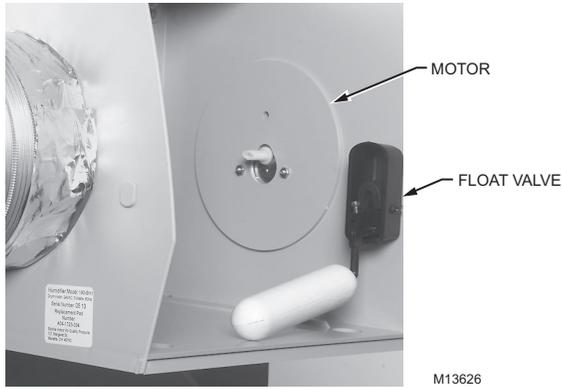

Fig. 24. Correct Float Valve position.
6. Install the Float Valve to the Humidifier Housing on the same side as the Motor Plate. See Fig. 24. (If the Float Valve is already installed on the same side as the Motor Plate, skip this step.)
- c. Place Float Valve Stem through “D” hole on same side as the motor. See Fig. 24. (Float must be at bottom.)